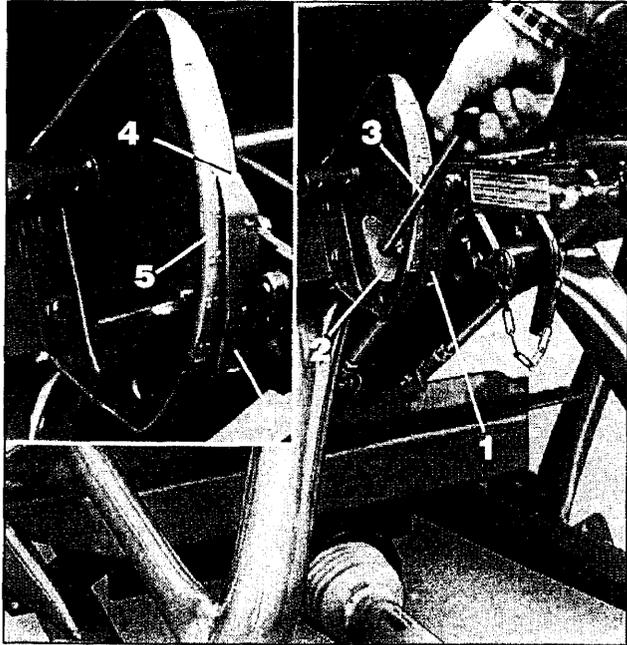

Fig. 7
The required shutter slide position is set at the stop (Fig.7/1) as follows:
- Slacken the clamping bolt (Fig. 7/2) with the aid of the lever extension rod (Fig. 7/3) .
- Move the reading-off edge of the stop plate (Fig. 7/4) to that position of the scale (Fig. 7/5) which was taken from the setting chart.